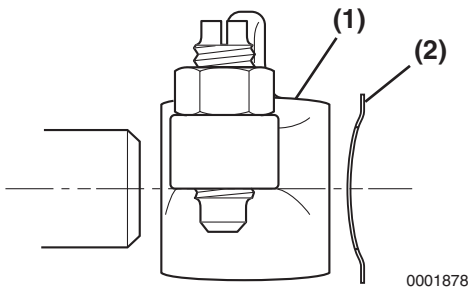

Figure 6-70
The wave washers (**Figure 6-70, (2)**) must be installed with the bow facing the rocker arms (**Figure 6-70, (1)**).